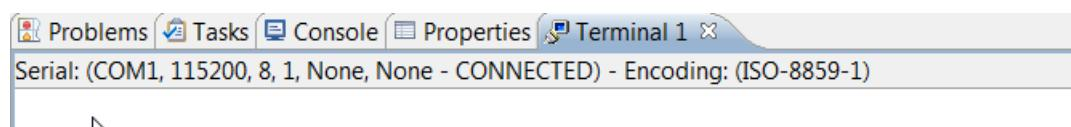

Figure 58: Terminal Connection Verification
9. Verify the **Terminal** connection by checking the status at the top of the tab (Figure 58).